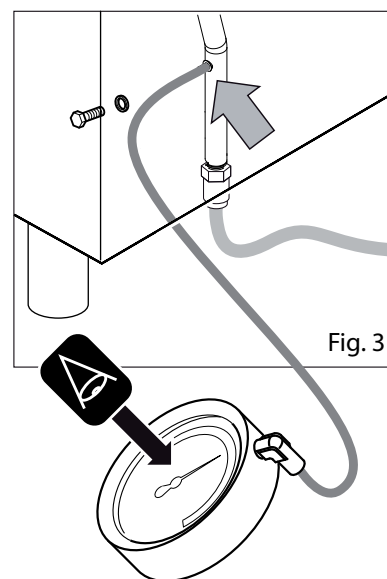

Fig. 3
- unscrew the pressure intake screw (Fig. 3);